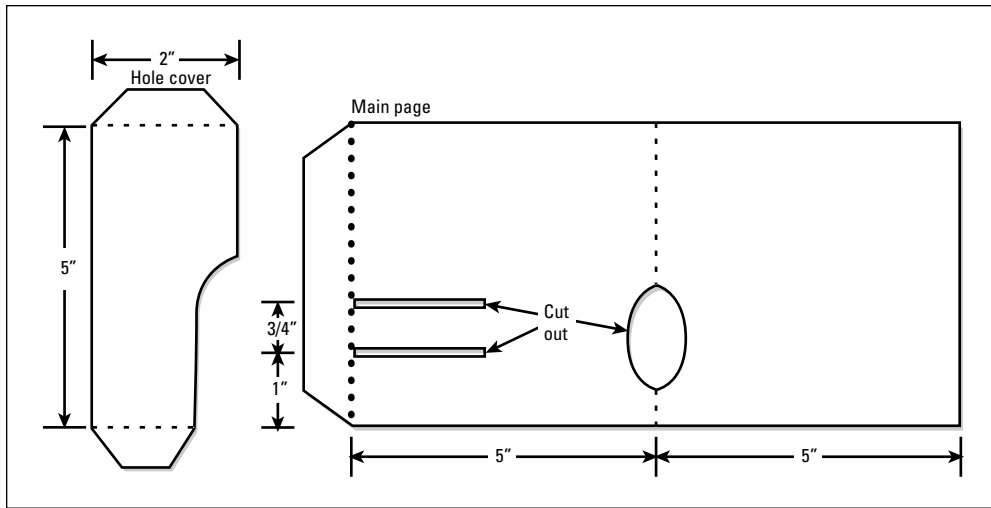

Figure 8-6:
1. Copy the template from Figure 8-6 onto a sheet of thin card.